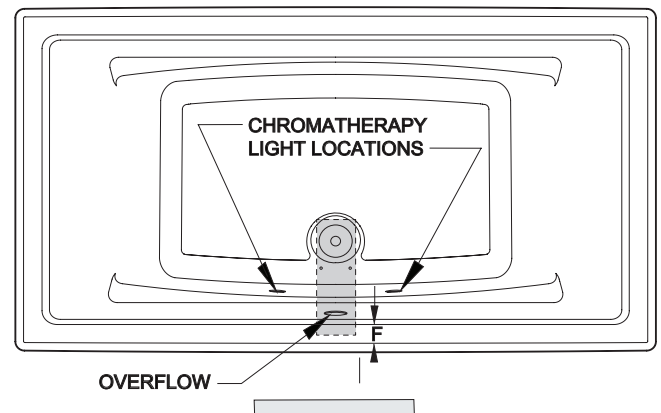

Figure 1 - Common Access Location
- Per code, access must be provided to the chromatherapy control panel box (if equipped). Service access locations are shown in the rough-in diagrams contained in the Technical Specifications Manual (Figure 1).